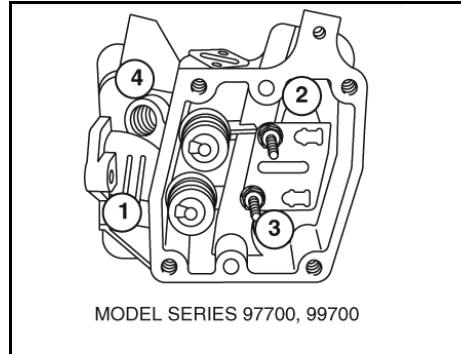

Figure 3
2. Remove cylinder head screws (Figures 3, 4, 5, 6), then remove head and gasket from cylinder.